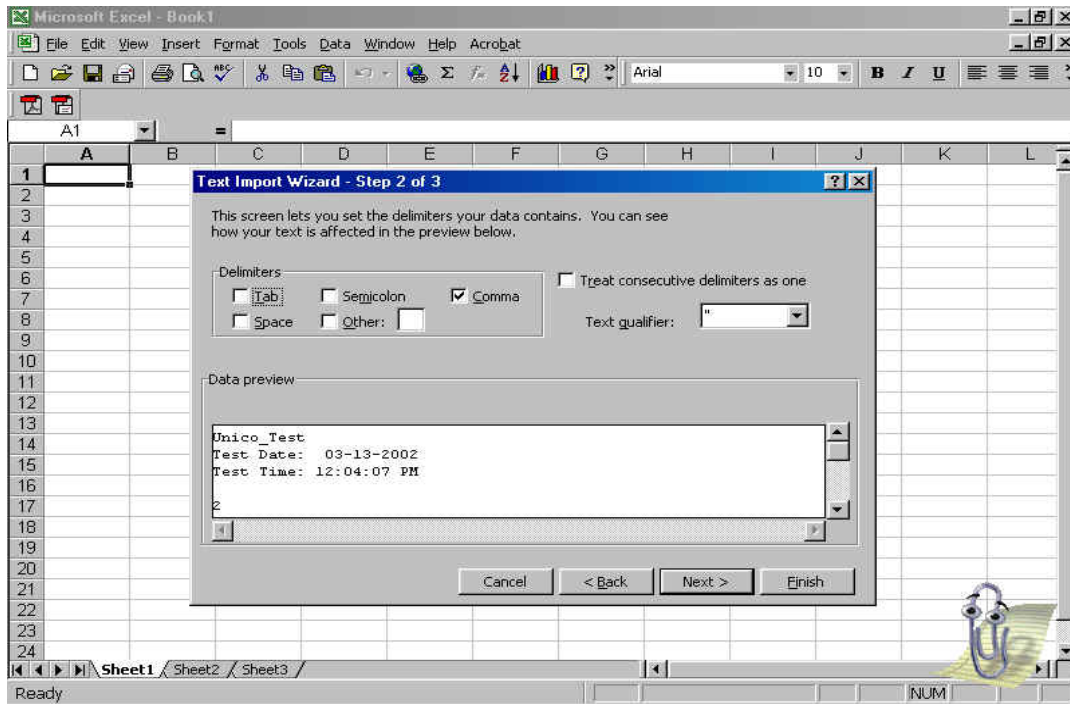

Figure-40 Excel Text Import Wizard II
- Step 4: Uncheck the **Tab** delimiter and select **Comma** delimiter as shown in Figure-40, then click the **Next** button.